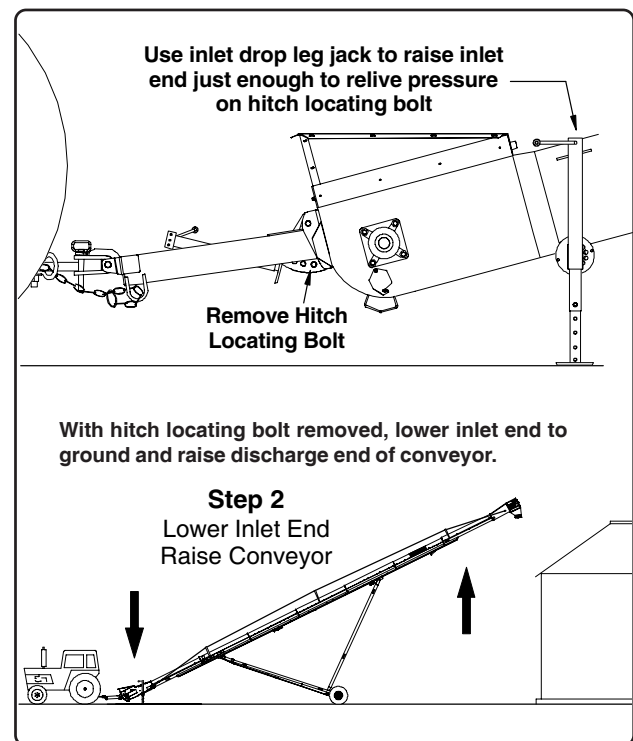

Fig. 6
1. Raise the inlet end of the conveyor with the drop leg jack to relieve pressure on the hitch locating bolt (See Fig. 6). Remove the locating bolt and using the drop leg jack, lower the inlet end to the ground.